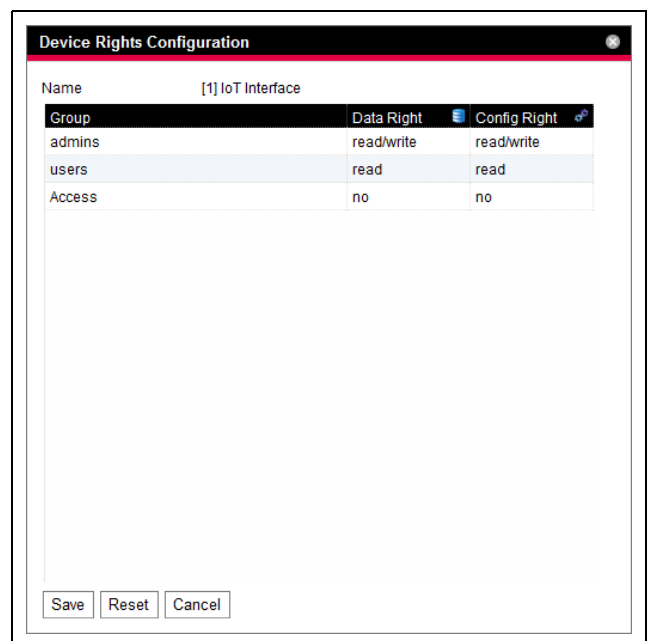

Fig. 33: "Device Rights Configuration" dialogue
The "Device Rights Configuration" dialogue opens (fig. 33).
The associated icons are displayed when a sensor is selected on the **Configuration** tab in the navigation area and this expanded down to the lowest level and also in the "Device Rights Configuration" dialogue (fig. 33, item 1). The icons emphasise the assignment to the "Data" and "Config" data types.